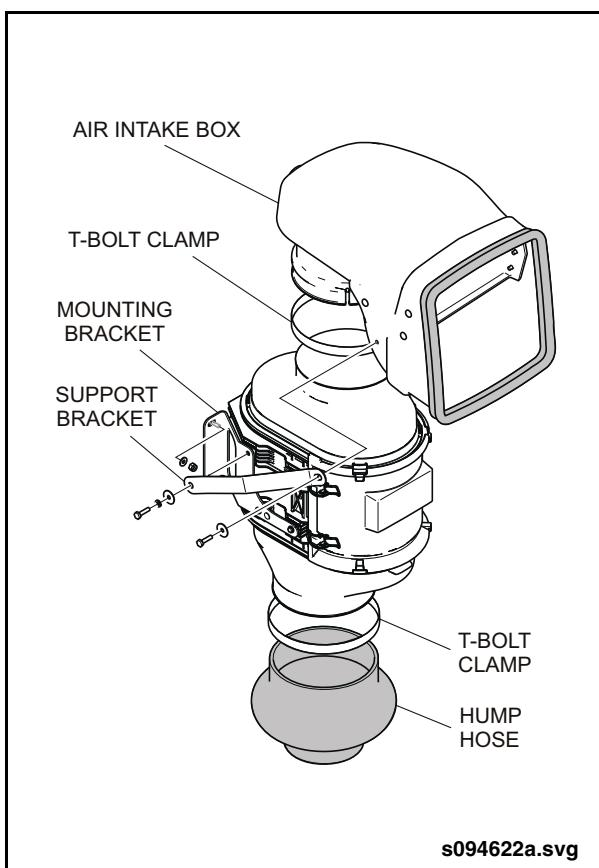

Fig. 4-17: Air Intake Box/Cleaner Assembly
1. Remove the support bracket that attaches the air intake box to the air cleaner assembly. See "Fig. 4-17: Air Intake Box/Cleaner Assembly" on page 26.